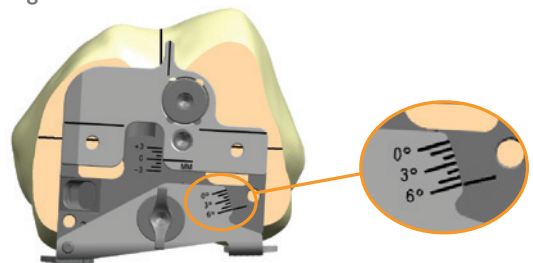

Figure 14
- 4 Ensure that the lateral paddle is mated to the posterior lateral condyle. Begin with the paddle set to 3°. Rotate away from 3° if it is desirable to match the AP or epicondylar axis or if it is desirable to balance the medial and lateral flexion gaps (Figure 14).